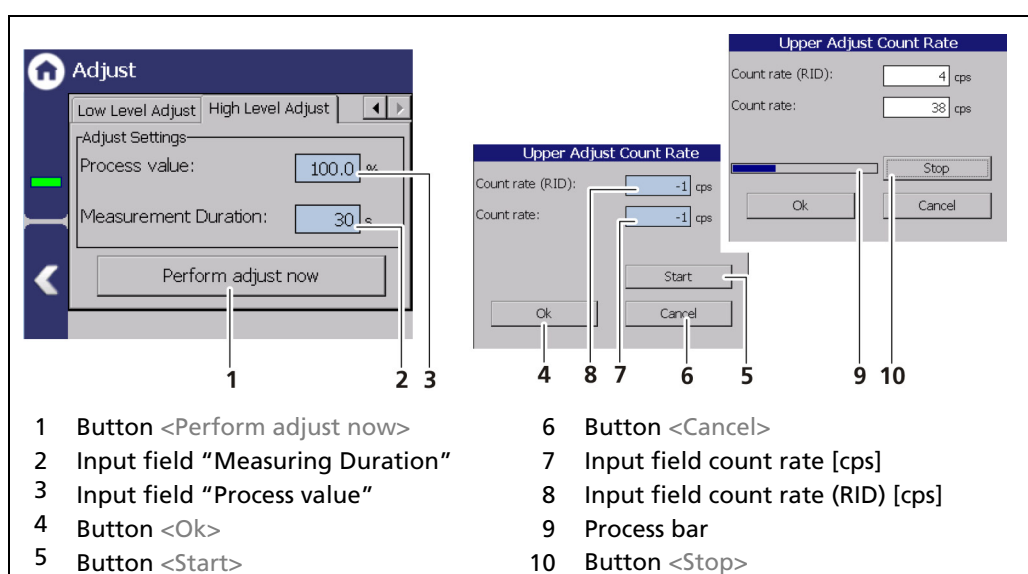

Fig. 91 Upper adjustment
1. Click on the field Process value (Fig. 91, item 3) to open the input field.
3. Click on the field "Measurement Duration" field (Fig. 91, item 2) and specify the duration of measurement in seconds. The higher you set the measurement time, the more accurate the result.
4. Click on the button <Perform adjust now> (Fig. 91, item 1).
5. Click on the <Start> button (Fig. 91, item 5).